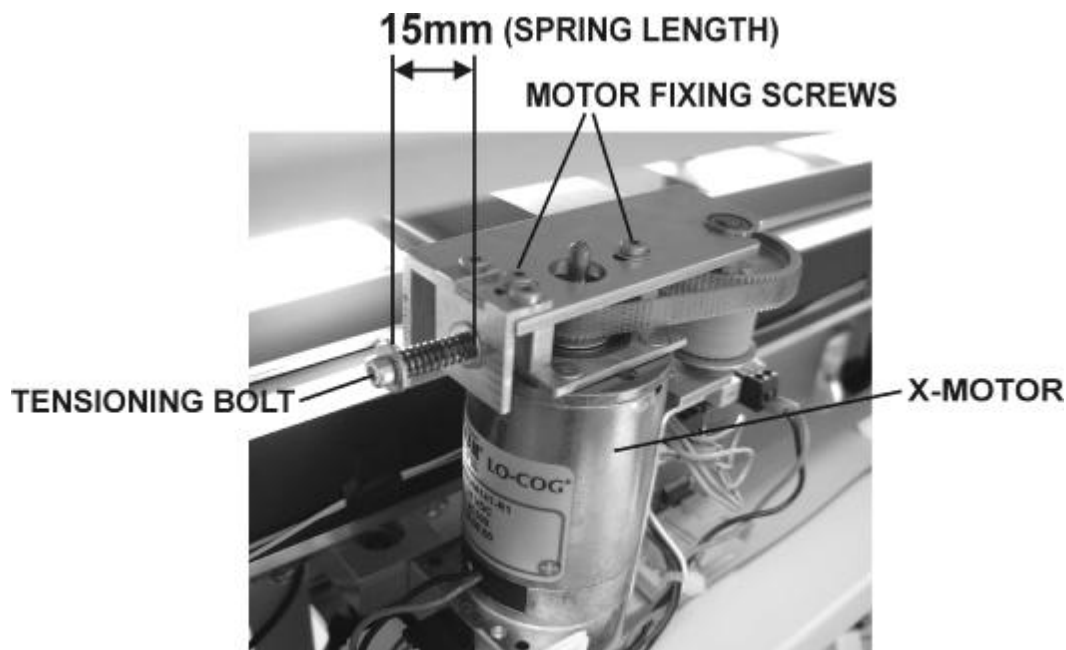

Fig. 1
4. Check tensioning of x-gearing belt (small golden belt on the left side of x-axis) by measuring the spring length of TENSIONING BOLT (Fig. 1).